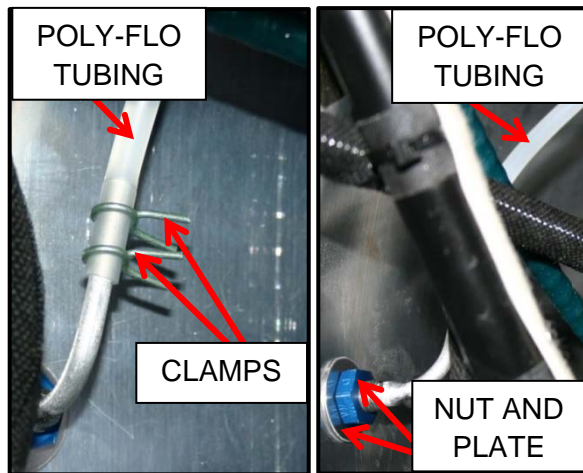
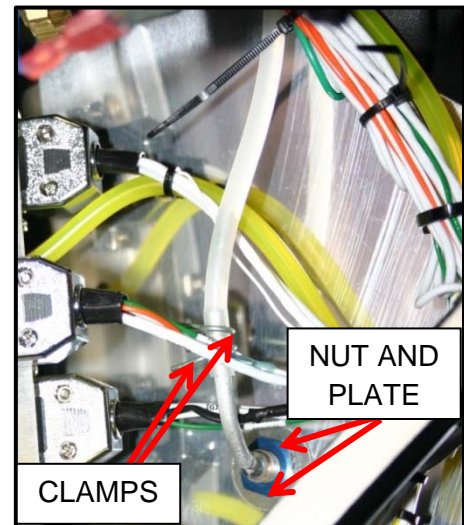

FIGURE 8 - LEFT SIDE Static Port Installation
FIGURE 9 - RIGHT SIDE Static Port Installation
11. Slide the plate and nut down over the static port threads and tighten the nut using blue Loctite, with the port oriented so the tubing goes up. Secure the two clamps over the overlapping tubes (Figure 8 and Figure 9).